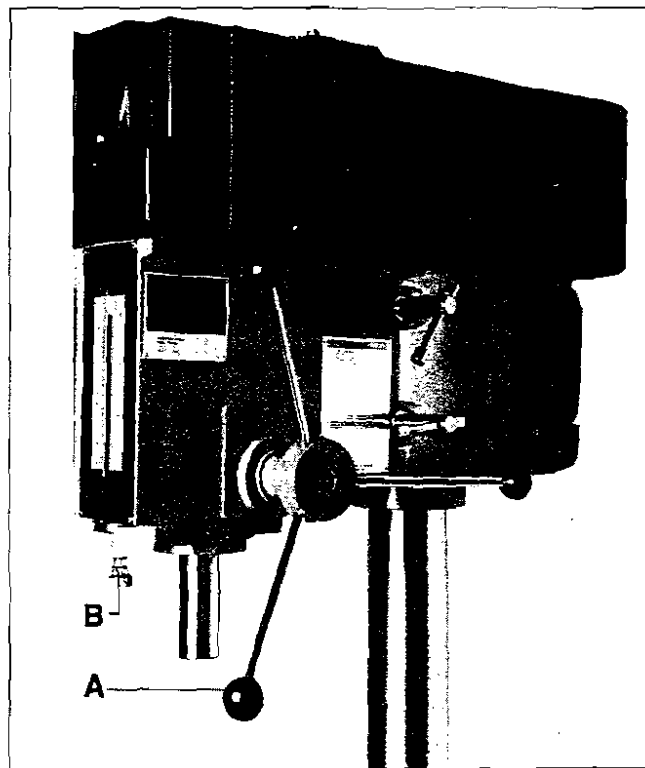

Fig. 7
1. Lower quill to bottom of stroke by turning handle (A, Fig. 7) counter-clockwise until it stops and hold in that position.
2. Turn knurled knob (B, Fig. 7) until pointer reads zero.
3. To set depth stop, turn knurled knob (B, Fig. 7) to desired depth.
1. To increase tension, lower quill to bottom of stroke by turning handle (A, Fig. 7) and turn spring cap counter-clockwise.